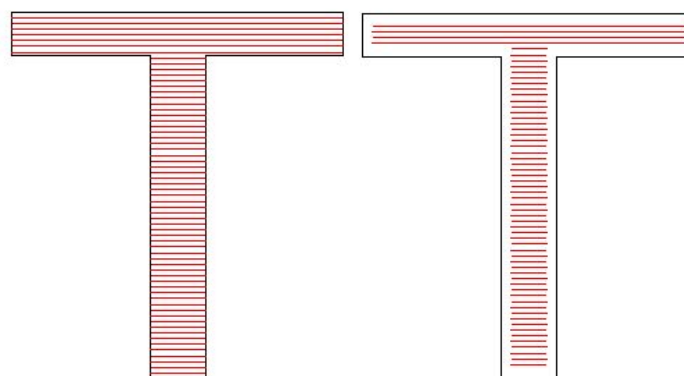

Figure 3-6 Border Distance
**Edge offset:** the distance between hatch lines and the object's outline (Figure 3-6)